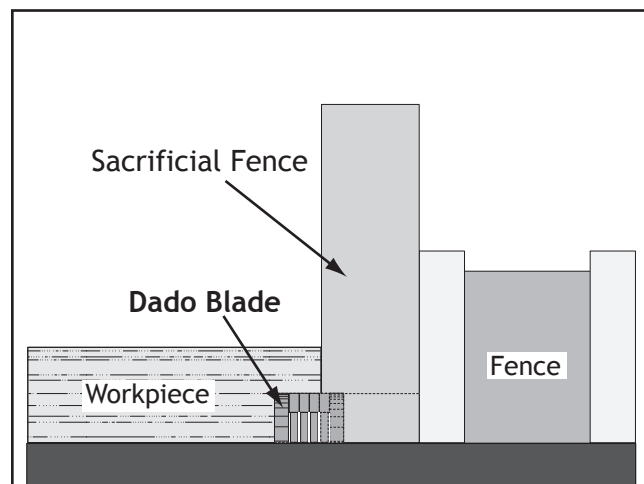

Figure 61. Rabbet cutting.
3. Adjust fence and align workpiece to perform cutting operation, as shown in **Figure 61**.